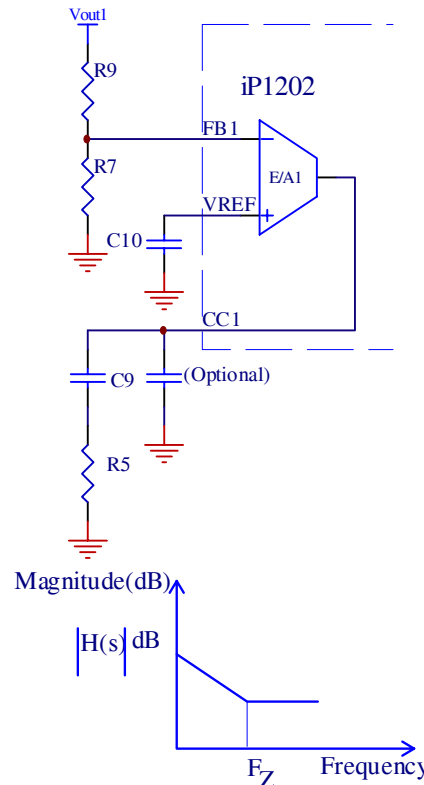

Fig. 18: Typical Type II compensation and its gain plot
From Fig.18 the transfer function $H(s)$ of the error amplifier is given by (11):